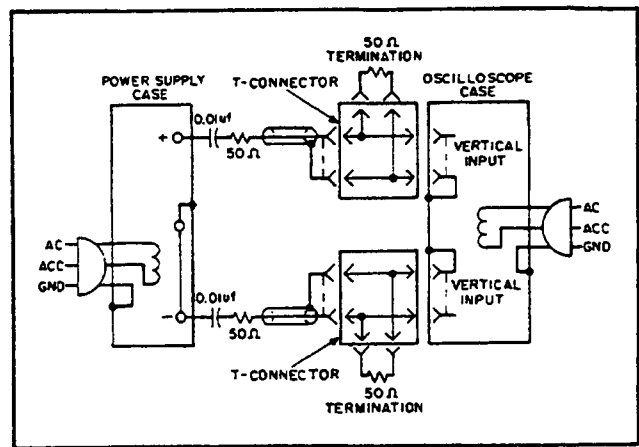

Figure 5-5. CV Noise Spike, Test Setup
- As shown in Figure 5-5, two coax cables, must be substituted for the shielded two-wire cable.
5-27 The circuit of Figure 5-5 can also be used for the normal measurement of low frequency ripple and noise; simply remove the four terminating resistors and the blocking capacitors and substitute a higher gain vertical plug-in in place of the wideband plug-in required for spike measurements. Notice that with these changes, Figure 5-5 becomes a two-cable version of Figure 5-4C.